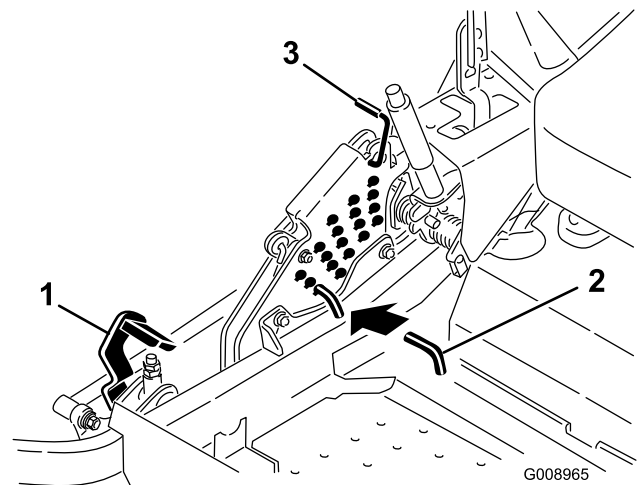

Figure 84
5. Push the deck lift pedal all the way forward and the deck will latch at the 5 1/2 inch (14 cm) transport position (Figure 84).